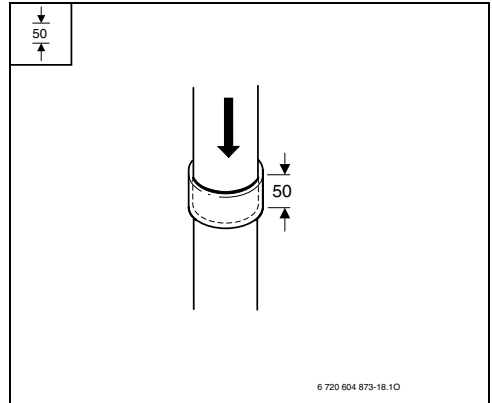

Fig. 36
►Push flue kit fully home (in this case: 50 mm insertion depth) (Fig. 36).